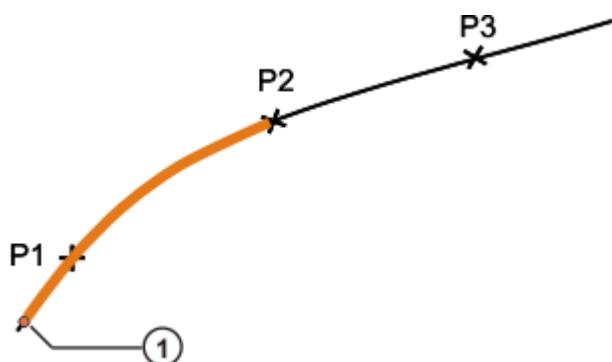

Fig. 7-8: Example motion for logic with advance run
Signal-dependent wait functions programmed **with advance run** allow approximate positioning to be carried out for the point before the command line. However, the current position of the advance run pointer is not unambiguous (default value: three motion blocks), so the precise moment at which the signal will be checked is not specified (1) (» Fig. 7-8). Furthermore, signal changes after the signal has been checked are not detected!